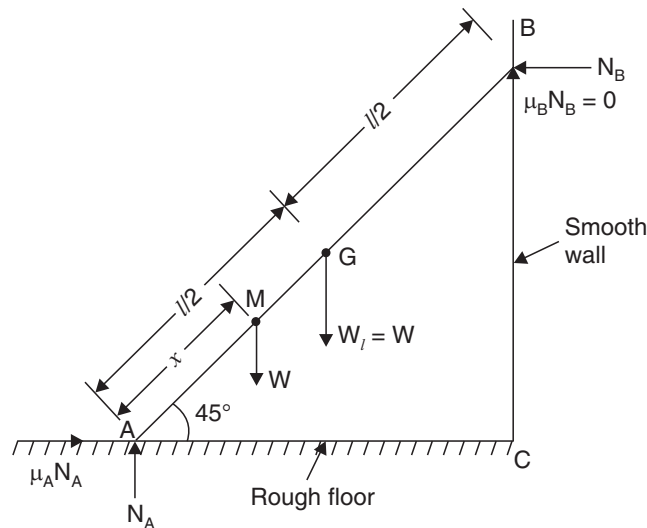

Fig. 6.25
**Sol.** Refer to Fig. 6.25
The weight ' $W_l$ ' of the ladder acts at its c.g.,  $G$ . Let the man of weight ' $W$ ' ascend on the ladder upto a distance ' $x$ ' metre along the ladder as shown in Fig. 6.25.